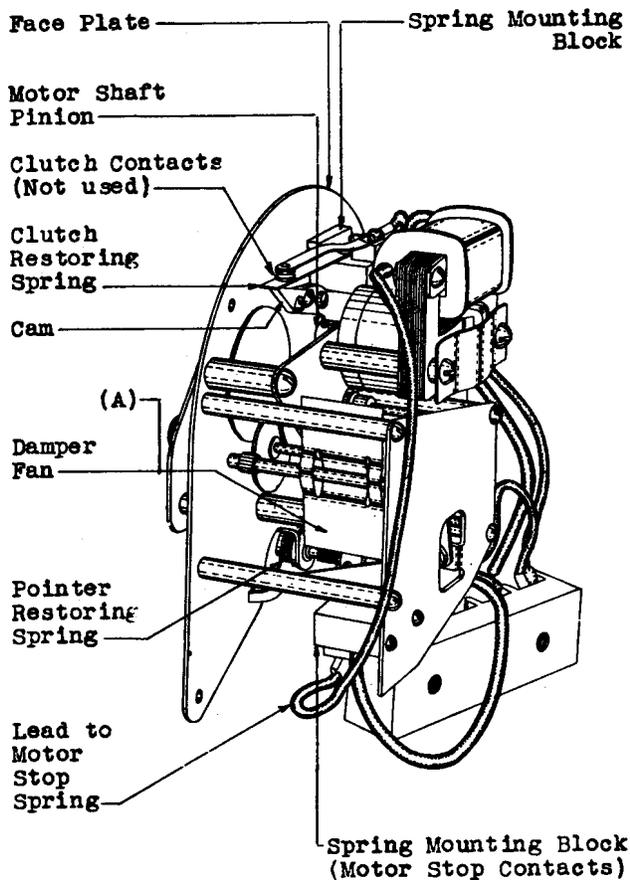

Fig. 4 - Rear View of KS-5464 Call Timing Switch
\*2.10 Damper Fan Clearance - Fig. 4 (A)